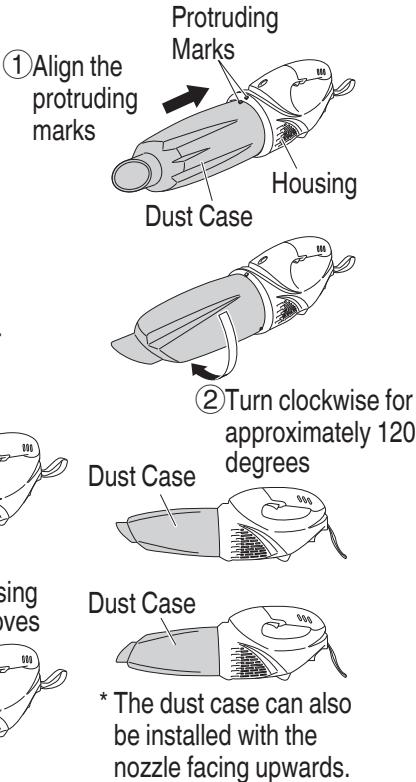

Fig. 11
(6) Install the dust case (Fig. 11)